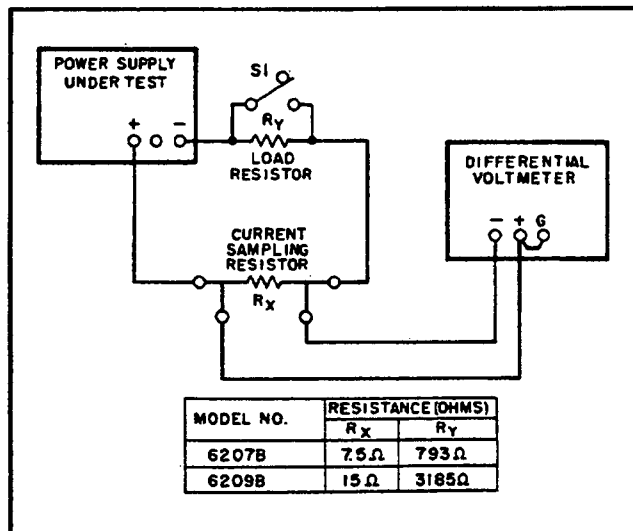

Figure 5-10. Output Current, Test Setup
- Connect test setup shown in Figure 5-10, leaving switch S1 open.
- Connect test setup shown in Figure 5-10.
- Utilize test setup shown in Figure 5-10, leaving switch S1 open throughout test.
- Connect appropriate load resistor, given in Figure 5-10, across (+) and (-) output terminals.